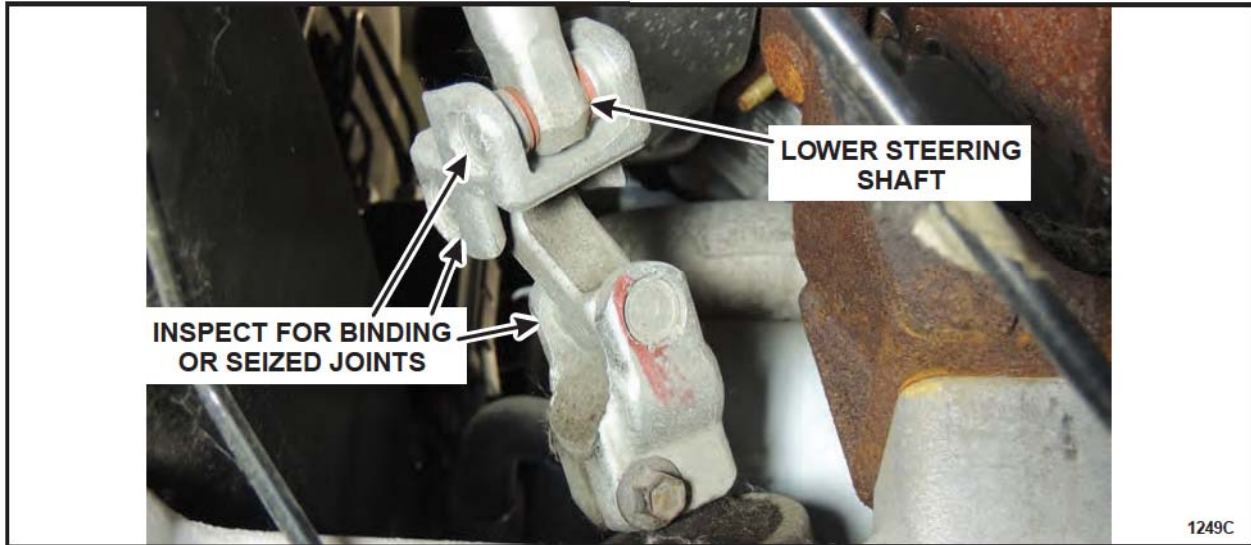

FIGURE 2
- c. Exercise the upper portion of the lower steering shaft throughout its range of motion. See Figure 2, on Page 2.